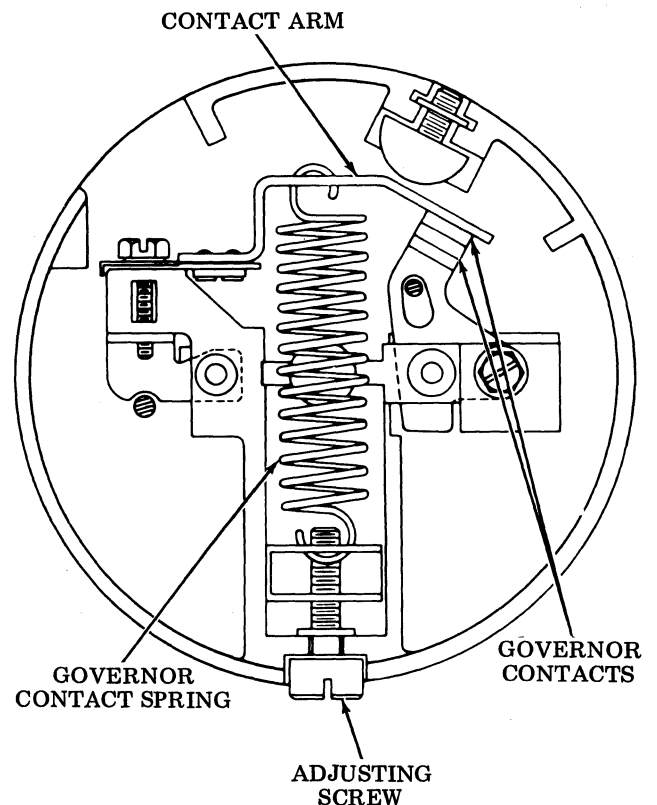

Figure 22 - 333521 Motor Assembly Governor
2.102 This motor assembly uses a governor with a centrifugal switch, and if the speed exceeds 3600 rpm, contacts open until the motor slows (Figure 22). There is a stroboscopic target to assist in adjusting the speed to 3600 rpm.